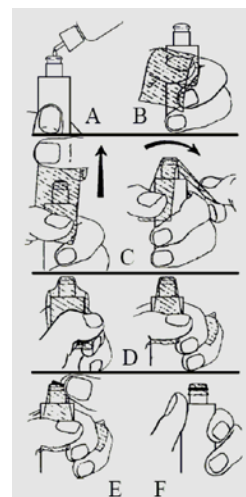

Figure 8.3.
- Replace the DO membrane (Hydrolab part number 002589HY) and secure with the O-ring (Hydrolab part number 000498HY) using the following steps. See Figure 8.3.
1. If anything other than a rapid and stable oxygen calibration occurs, replace the membrane as a first step in troubleshooting. Please note that the new DO membrane is stretched during installation (see Figure 8.3). This stretching affects the rate of diffusion for oxygen molecules passing through the membrane to the DO cell. As the membrane relaxes, the rate of diffusion will change unpredictably. For that reason it is recommended that the newly installed DO membrane be allowed up to eight hours to ensure total relaxation. If the sonde must be pressed into service, 2 to 3 hours is recommended to allow the membrane to achieve at least approximately 80 percent relaxation.